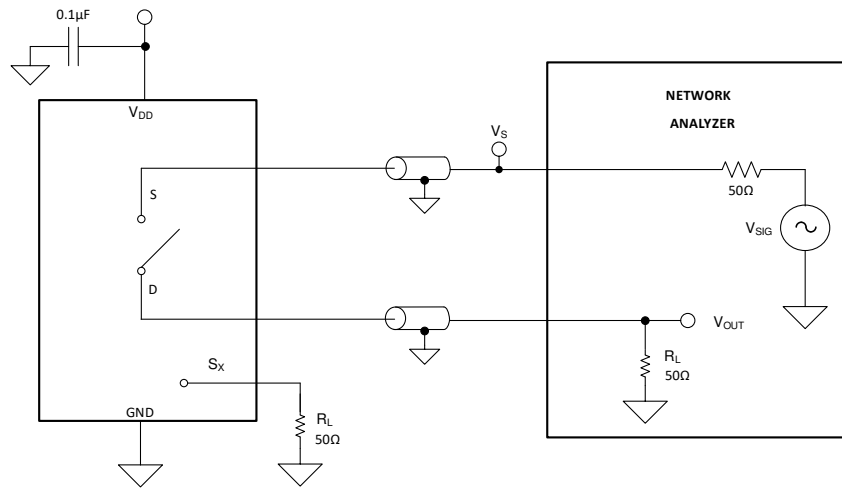

图 6-7. Off Isolation Measurement Setup
Off isolation is defined as the ratio of the signal at the drain pin (D) of the device when a signal is applied to the source pin (S_x) of an off-channel. 图 6-7 shows the setup used to measure, and the equation used to calculate off isolation.